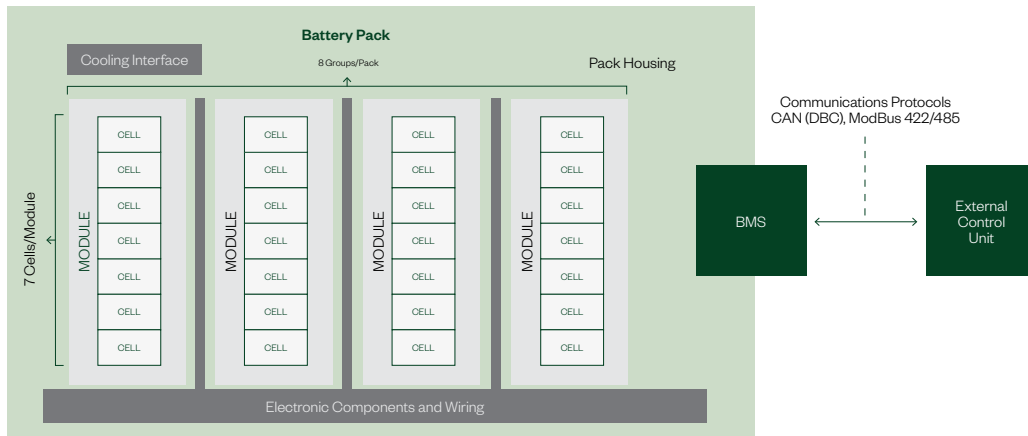

FIGURE 9 Battery Systems Architecture, example of EV Battery. The BMS communicates with the external control unit.
- **Communication:** The BMS captures battery data communicated to the overall system (Fig. 9).